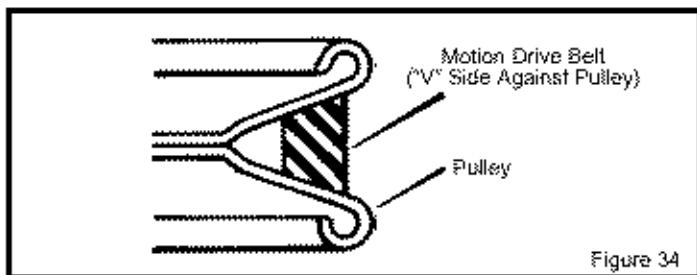

Figure 34
1. Slide the motion drive belt between the **stack pulley** and the **belt guide**. Install the motion drive belt on the top pulley of the **stack pulley**. Make sure the "V" side of the belt is against the pulley (Figure 34).